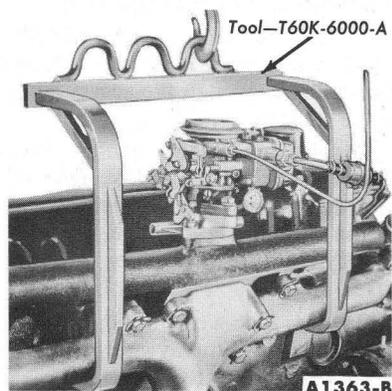
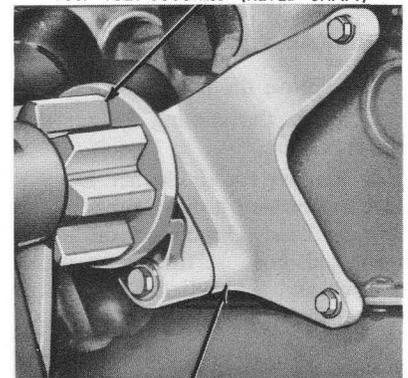

FIG. 23—Engine Lifting Hook
FIG. 24—Engine Work Stand
12. Attach the engine lifting hook (Fig. 23). Carefully lift the engine out of the engine compartment. Install the engine on a work stand (Fig. 24).